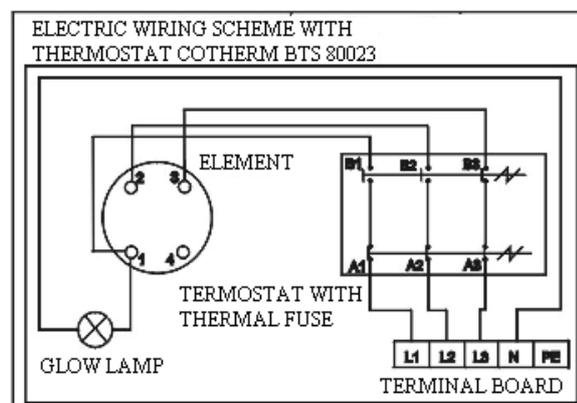

Figure 5
- The wiring diagram is attached to the water heater on the side of the electric installation guard (see Fig. 5).